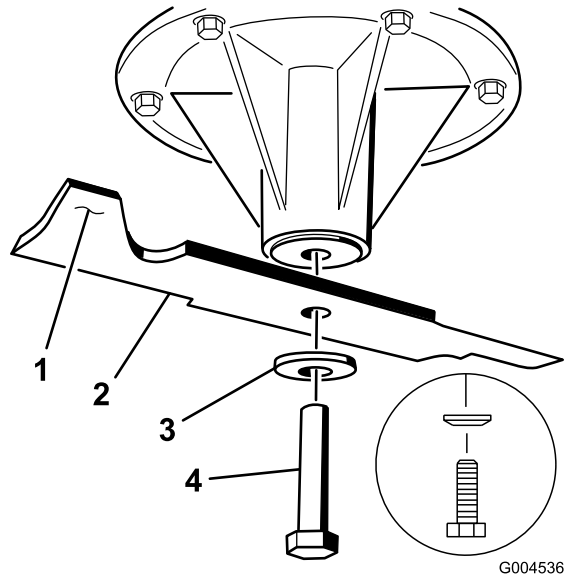
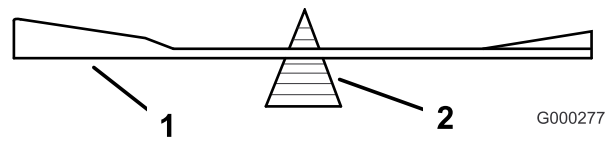

Figure 65
Figure 68
2. For 40 and 48 inch mower decks, remove the blade bolt, curved washer, and blade from the spindle shaft (Figure 65).
1. Install the blade onto the spindle shaft (Figure 65).
- Important:** The sail part of the blade must be pointing upward, toward the inside of the mower to ensure proper cutting (Figure 65).
2. For 40 inch and 48 inch mower decks, install the blade, curved washer, and blade bolt (Figure 65).
2. Check the balance of the blade by putting it on a blade balancer (Figure 68). If the blade stays in a horizontal position, the blade is balanced and can be used. If the blade is not balanced, file some metal off the end of the sail area only (Figure 65). Repeat this procedure until the blade is balanced.